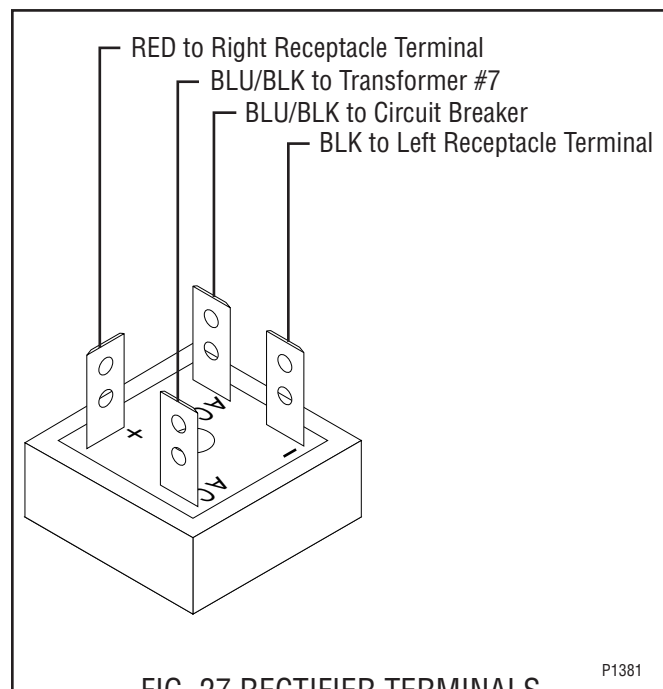

FIG. 27 RECTIFIER TERMINALS
5. Refer to Fig. 27 when reconnecting the wires.